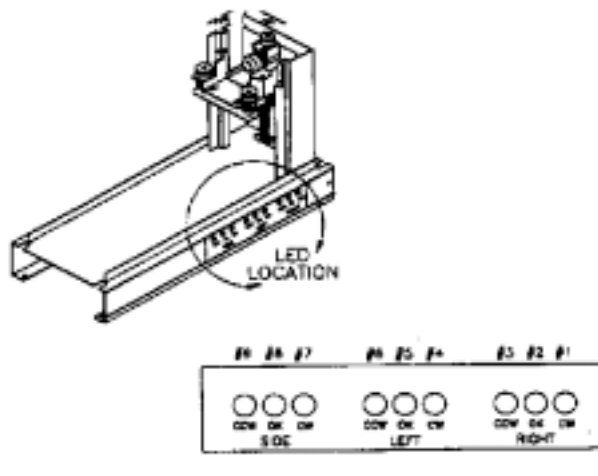

Figure 5-4 AccuCam LED Display
9. REFER TO Figure 5-4 for the layouts of the LED's on the pinsetter chassis.